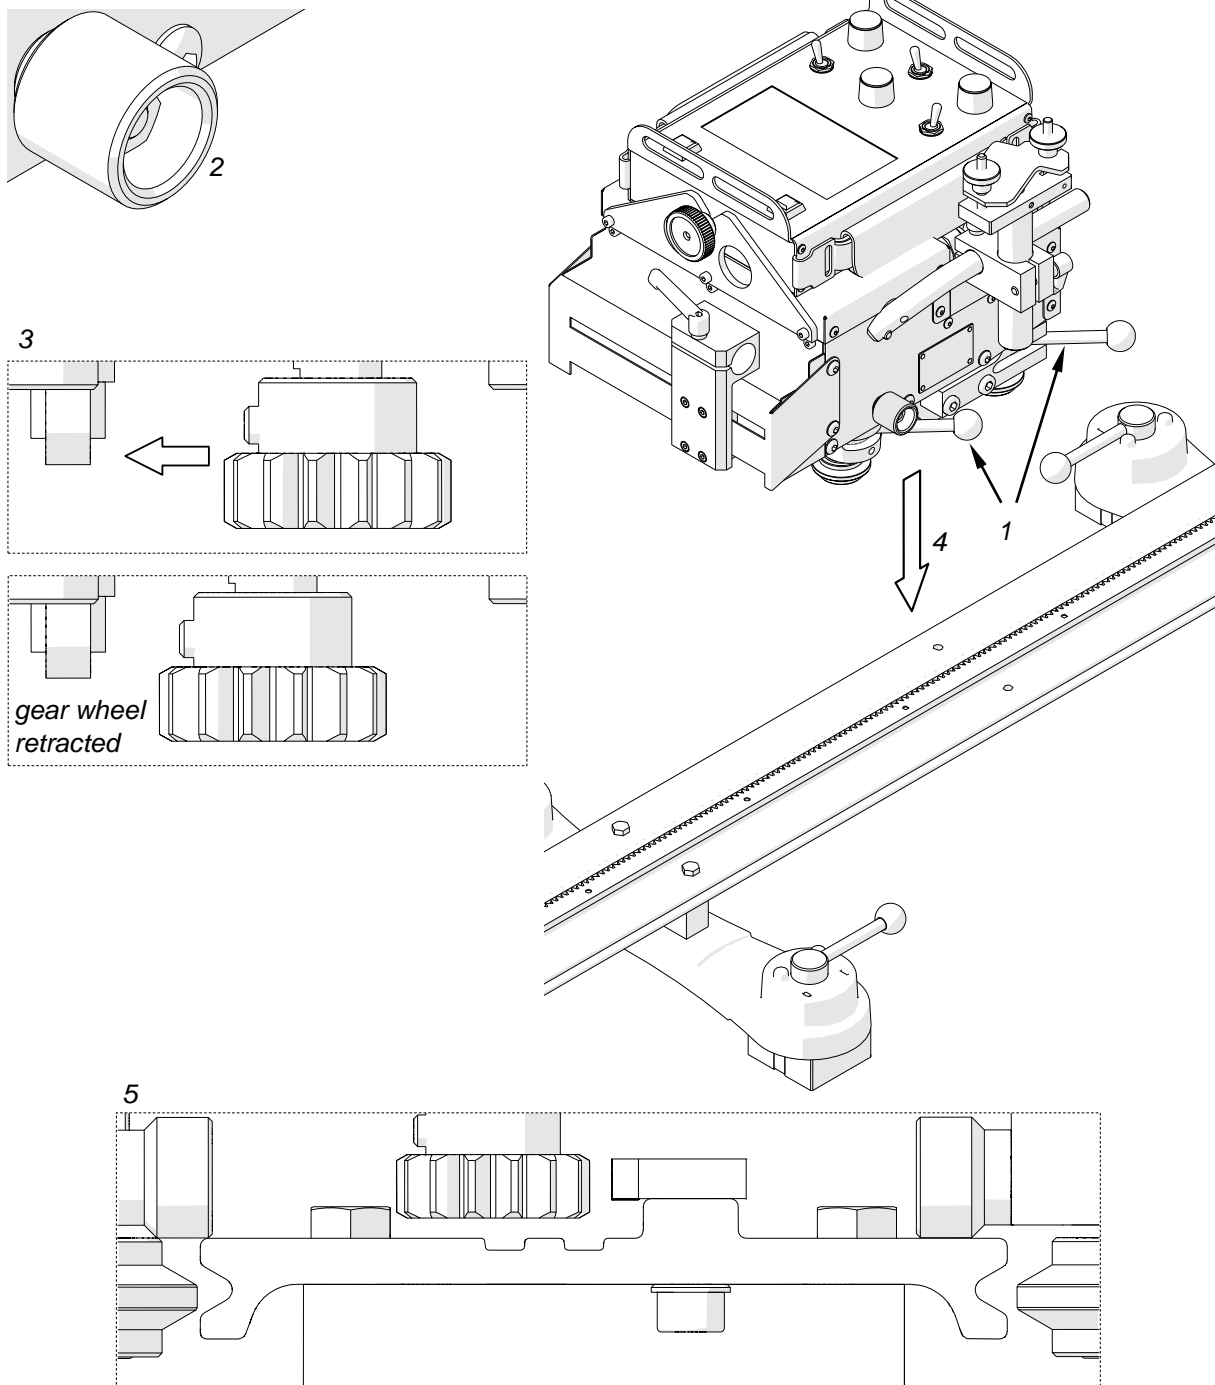

Fig. 7. Placing the carriage on a straight track
Set the power switch, arc ignition switch, oscillation switch, and travel direction switch to the position 'O'. Next, with the pressing levers in the position OFF (1, Fig. 7) loosen the drive clutch knob (2) fully to retract the drive gear wheel (3). Then, set the carriage onto the track (4) so that the installation brackets rest on the rail (5).